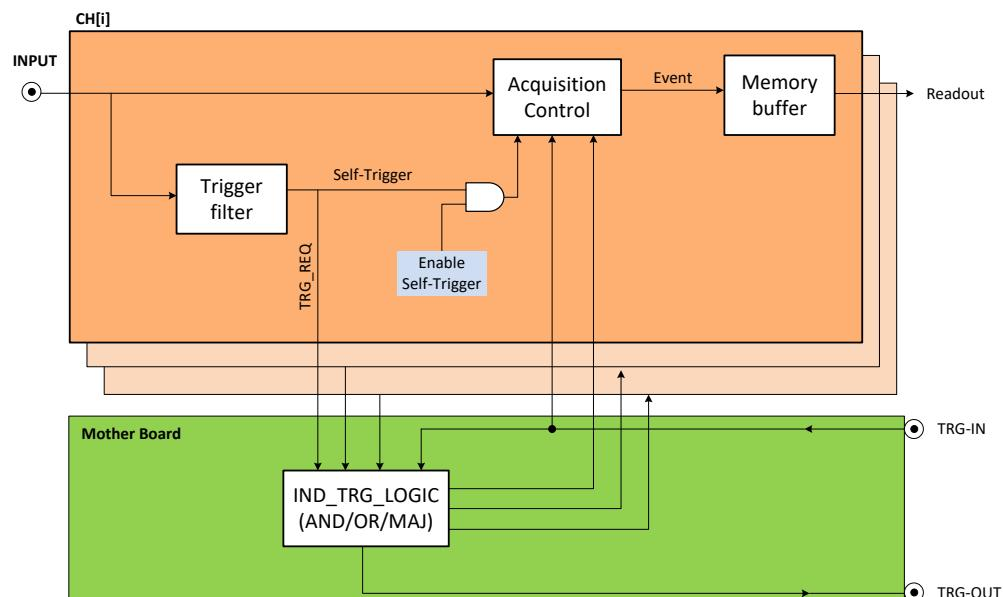

Fig. 2.8: Diagram showing the structure of the trigger management of the DPP-PSD firmware
- 2) each channel triggers independently, then only those events satisfying programmable conditions are saved. Referring to **Fig. 2.8**: the IND_TRG_LOGIC (Individual Trigger Logic) can combine (AND/OR/MAJ) the trigger request (TRG_REQ) from each self-trigger. When the logic condition is met, a trigger validation (TRG_VAL) is sent back to each channel individually to enable the acquisition of that event. Events not receiving a TRG_VAL signal are discarded. This technique allows to make coincidence and anti-coincidence requests among different channels (refer to **[RD4]** for further details);